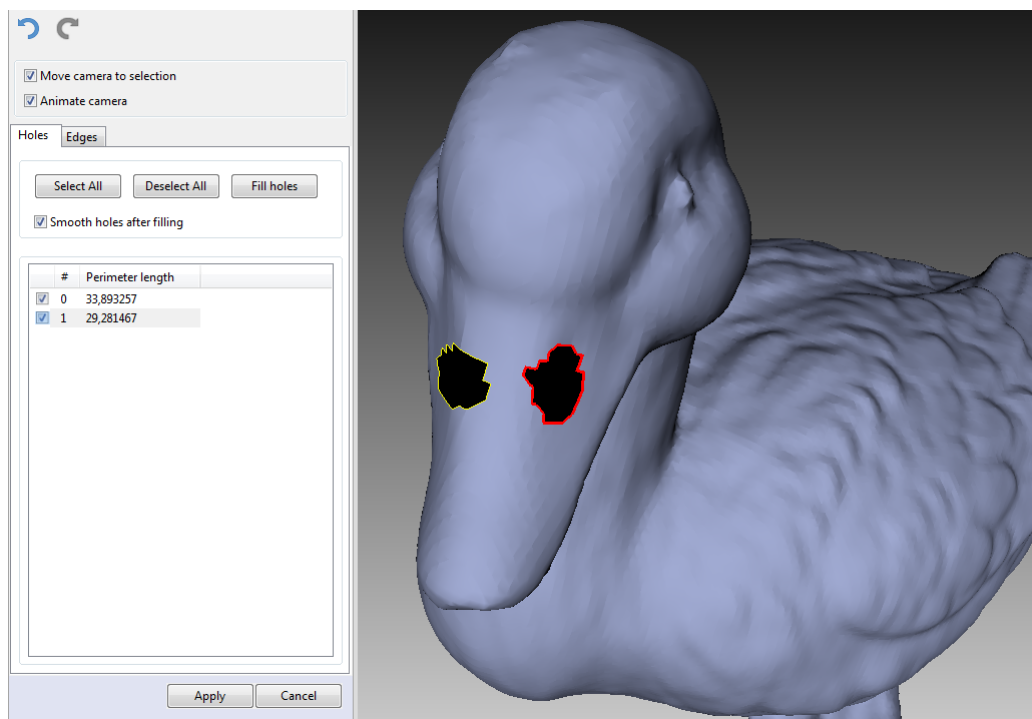

Figure 89: Two holes marked for correction.
- Mark the checkbox next to each one you wish to correct. These edges will be highlighted in red in the *3D View* window (see Figure 89).